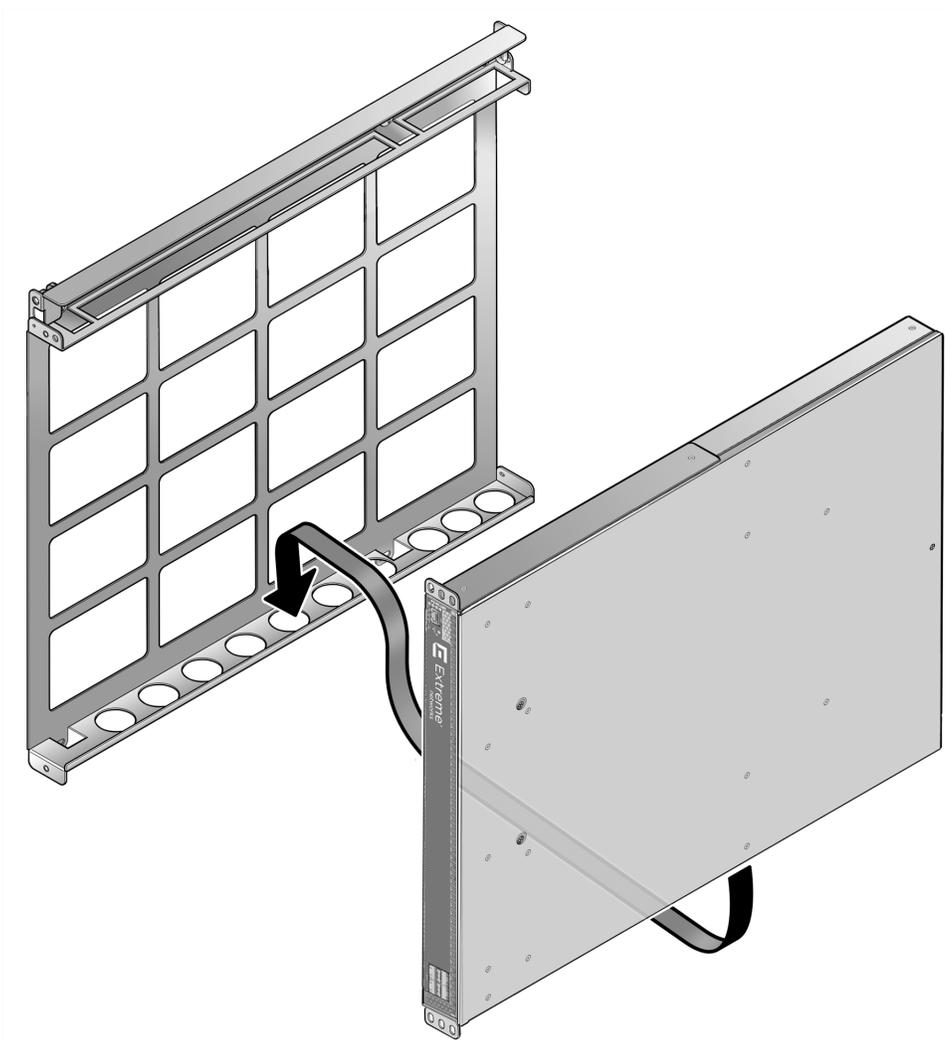

Figure 36: Installing the PV-FC-180 in the Mounting Bracket
- 3 Holding the PV-FC-180 with the I/O connectors facing left, slide the bottom side of the PV-FC-180 chassis under the lip on the bottom side of the mounting bracket. See Figure 36: Installing the PV-FC-180 in the Mounting Bracket on page 76.
You must install the PV-FC-180 chassis in the orientation shown in Figure 36: Installing the PV-FC-180 in the Mounting Bracket on page 76 (I/O connectors facing left, top of PV-FC-180 facing out). No other orientation of the PV-FC-180 chassis is supported.